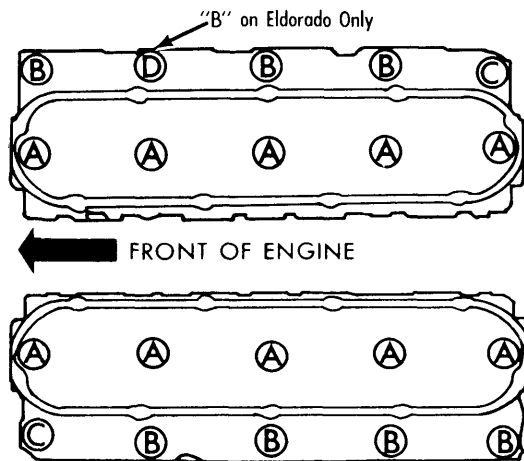

Fig. 1 Cylinder Head Bolt Location
**Installation** — **NOTE** — Bottom rear bolt must be installed and suspended prior to positioning of cylinder head. Clean all gasket surfaces and position cylinder head and gasket over dowels on block. Install ten head bolts in locations as shown in Fig. 1 and table. Tighten head bolts, starting from center of head and working toward both ends.